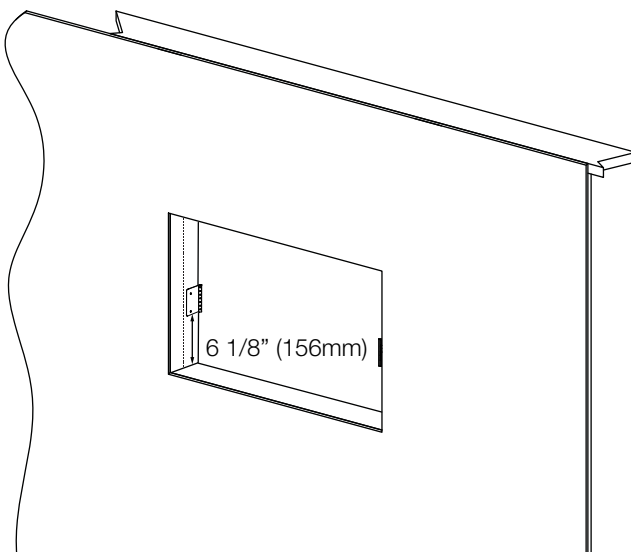

FIG. 1
- D. To determine the installation location of the mounting bracket, ensure to line up the edge of the mounting bracket $1/4"$ (6.4mm) from the center of the stud and $6 1/8"$ (156mm) from the bottom of the stud (FIG. 1 & 2).